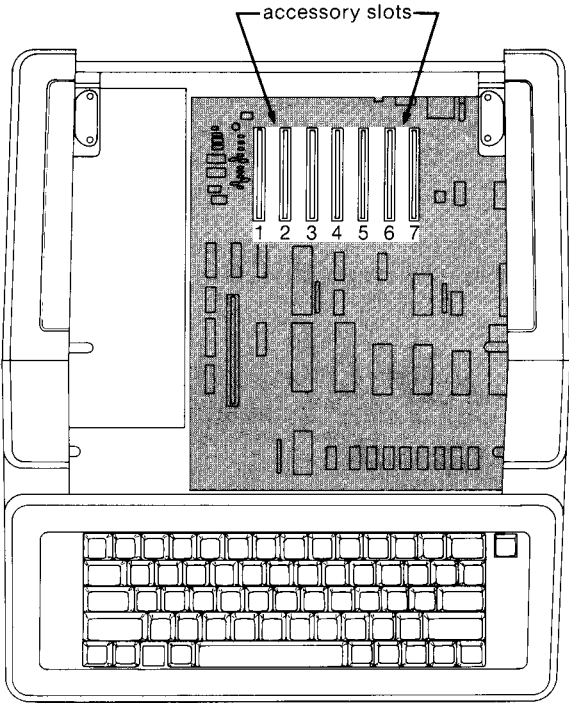

Figure 2.1. Accessory Slots
The CP/M operating system requires accessory boards be installed into specific slots, depending on their intended use. For example, if you have a printer interface board, it should be installed in slot 1. This allows you to refer to the printer without specifying a slot number, as is necessary with Applesoft BASIC and Integer BASIC. The accessory slots are numbered from 1 through 7, as shown in Figure 2.1. To determine the correct slot for using other accessory boards with CP/M, read the following paragraphs.
12. Refer to Table 2.1 for the correct installation configuration of your other accessory boards. See Figure 2.1 for accessory slot locations. If you have any other accessory boards to install, do it now.